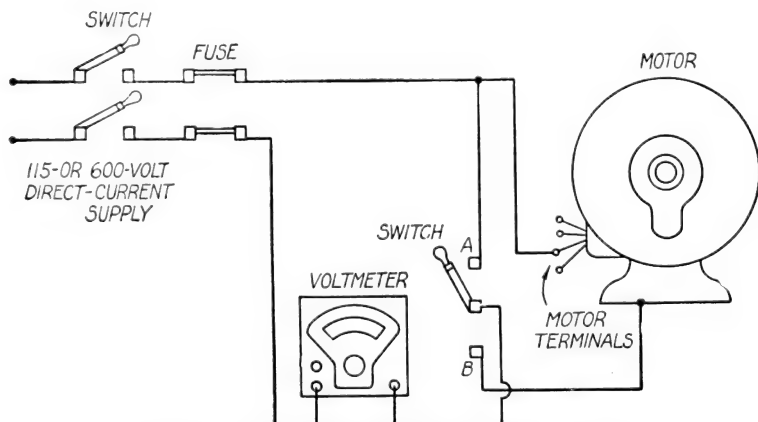

Fig. 21. Circuit Connections for Testing Motor Insulation
**Insulation Resistance Measurements.** To measure very high resistances, the volt-ammeter method is not practical due to the extremely sensitive milliammeter which would be required. The circuit used to measure resistances above several thousand ohms is shown in Fig. 21. This is known as the series voltmeter method. It makes use of a voltmeter of known resistance as a milliammeter. With the single-pole double-throw switch closed to position *A*, the voltmeter indicates the line voltage. When the switch is closed to position *B*, the voltmeter indicates the voltage drop across the voltmeter terminals caused by the current flowing through the insulation being tested. Since the resistance of the voltmeter is known, the current passing through the voltmeter may be calculated by Ohm's Law.
In a series circuit, the current passing through the various parts is the same and is determined by the voltage applied to the circuit and the total resistance of the circuit. Also the total voltage drop of a series circuit is equal to the sum of the voltage drops of its various parts. In Fig. 21, the total voltage drop, as measured with the switch in position *A*, is equal to the voltage drop across the motor insulation plus the voltage drop across the voltmeter when the switch is in position *B*. The voltage drop across the motor insulation, the resistance of which we wish to obtain, is therefore equal to the voltmeter reading with the switch in position *A* minus the voltmeter reading with the switch in position *B*.
The first step is to measure the insulation resistance of the motor just as it is. Carefully wipe all moisture off the frame, commutator, and brush rigging. Insulate the frame of the motor from ground by placing it on dry wood and arrange the circuit as shown in Fig. 21.